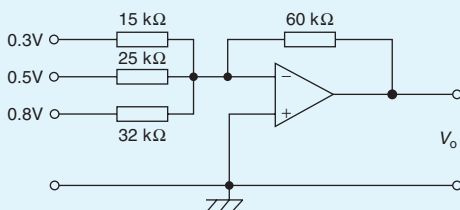

Figure 19.20
- For the summing op amp shown in Fig. 19.20, determine the output voltage, V_o